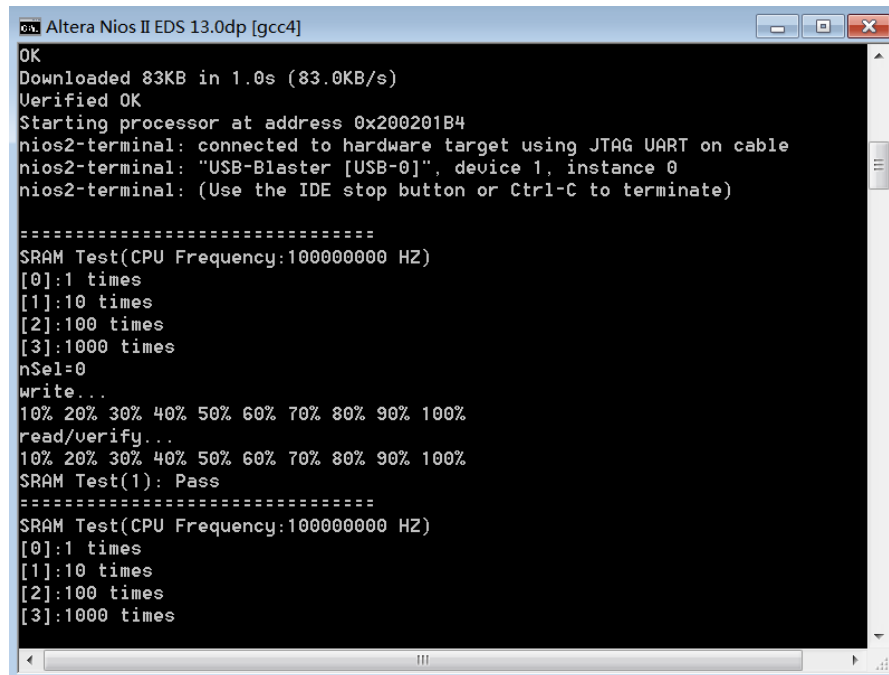

Figure 6-2
- The program will display progressing and result information, as shown in **Figure 6-2**.